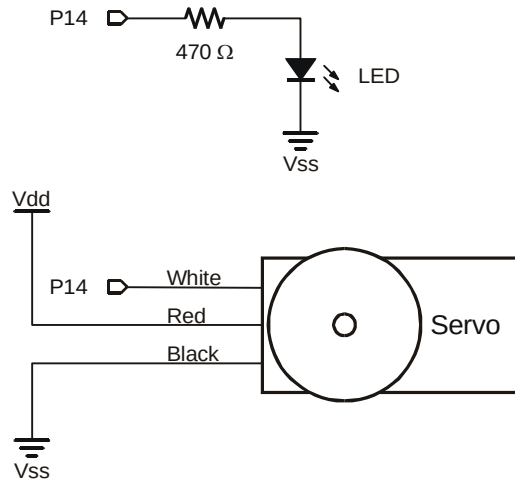
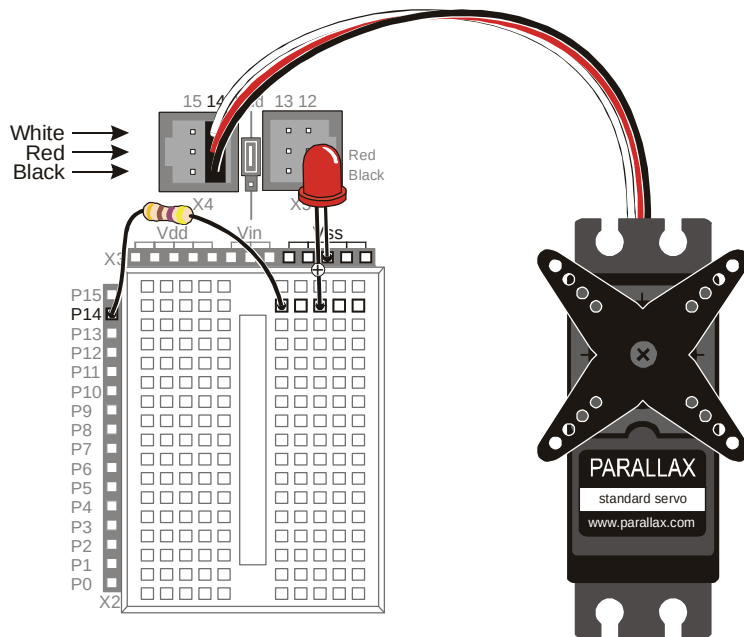

Figure 4-5
Figure 4-6
Figure 4-5 shows the schematic of the circuit you will build on your Board of Education.
- ✓ Build the circuit shown in Figure 4-5 and Figure 4-6.
- ✓ Make sure you did not plug the servo in upside-down. The white, red and black wires should line up as shown in Figure 4-6.